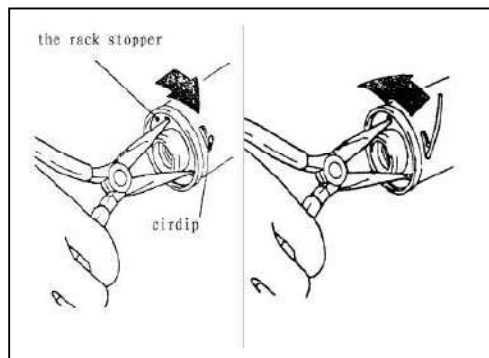

Fig 17-27
5) CIRCLIP REMOVAL(See fig 17-27)